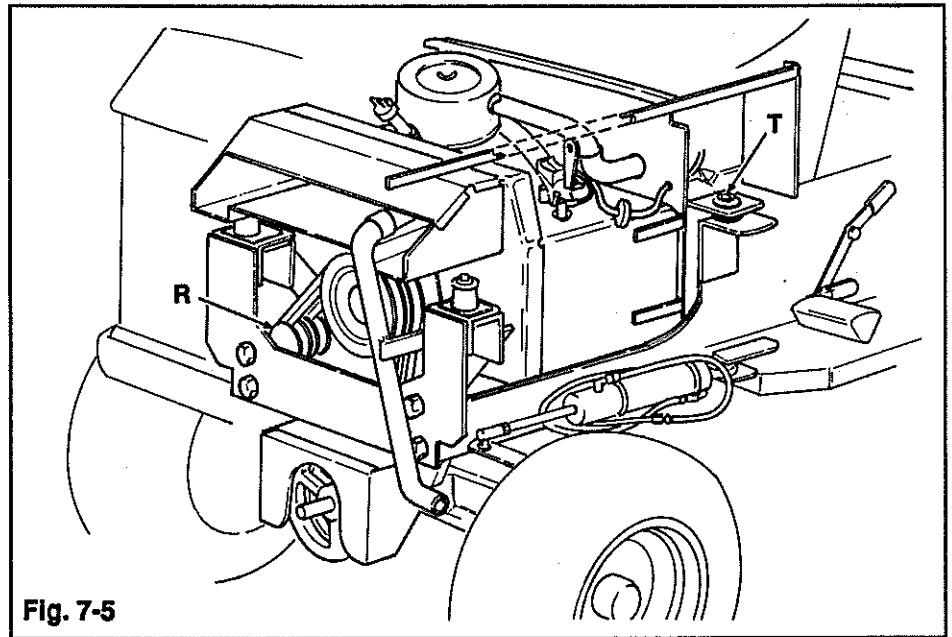

Fig. 7-5
5. Install, but do not tighten, the rear mount bolts (T, Fig 7-5).
6. Lower the engine completely down onto the frame. Move the PTO belt idler pulley (R) inward to relax belt tension, and install the PTO belts.